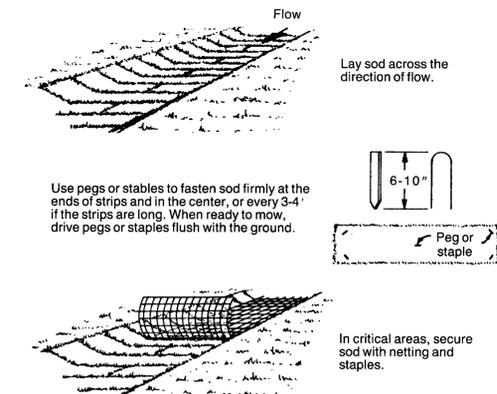

Figure 6.12b Installation of sod in waterways (modified from Va SWCC).
- Lay sod strips perpendicular to the direction of flow, with the lateral joints staggered in a brick-like pattern. Edges should butt tightly together (Figure 6.12b).